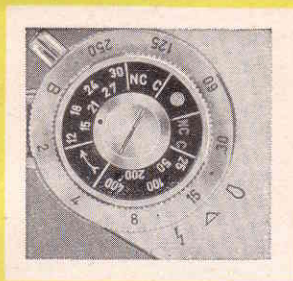

Fig. 34
The EXA II has a flash contact (7) with symbol setting for the shutter speeds required in flash work. When working with flash-bulbs, turn speed setting ring (16) so that the red dot is alongside the flashbulb symbol (⊙) (fig. 34) and working with flashtube, the red point should be alongside the flashtube symbol (⚡) (fig. 35).